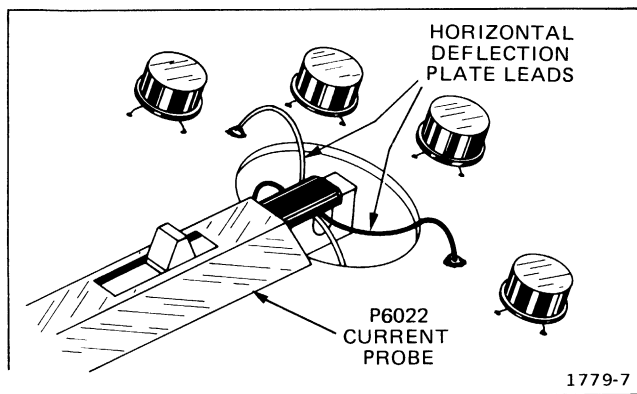

Fig. 5-2. Proper connection of Current Probe to Horizontal Deflection Plate leads for High-Speed Timing calibration.
- d. Connect probe head around crossed horizontal deflection plate leads. See Fig. 5-2 for location of leads and proper probe connection.